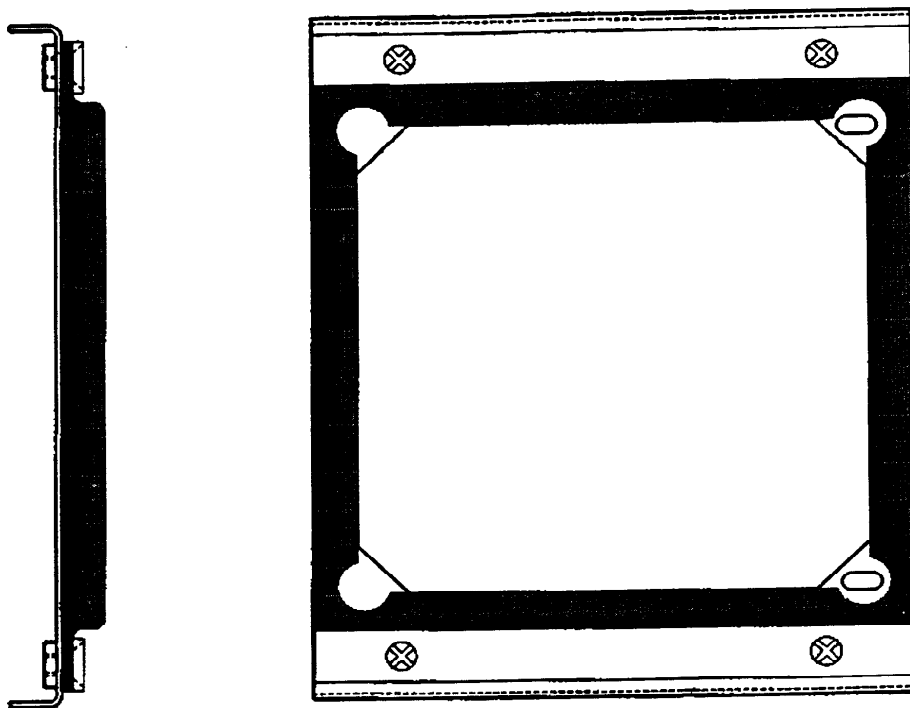

**Figure 1**
5. Locate the system fan on the left side of the instrument PCB enclosure. See Figure 1.